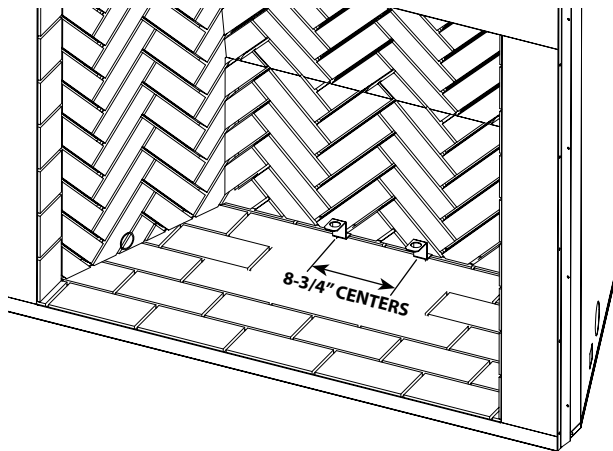

Figure 34 - Installing (2) Grate Retainers
- Install the (2) provided grate retainers that hold the grate in place on the hearth brick panel (**Figure 34**). The back of the retainer will be flush with the rear firebox wall. Mark the hole locations with a marker. Next, take a 1/8" masonry drill bit and drill pilot holes in the marked locations. Secure the grate retainer with masonry screws provided.